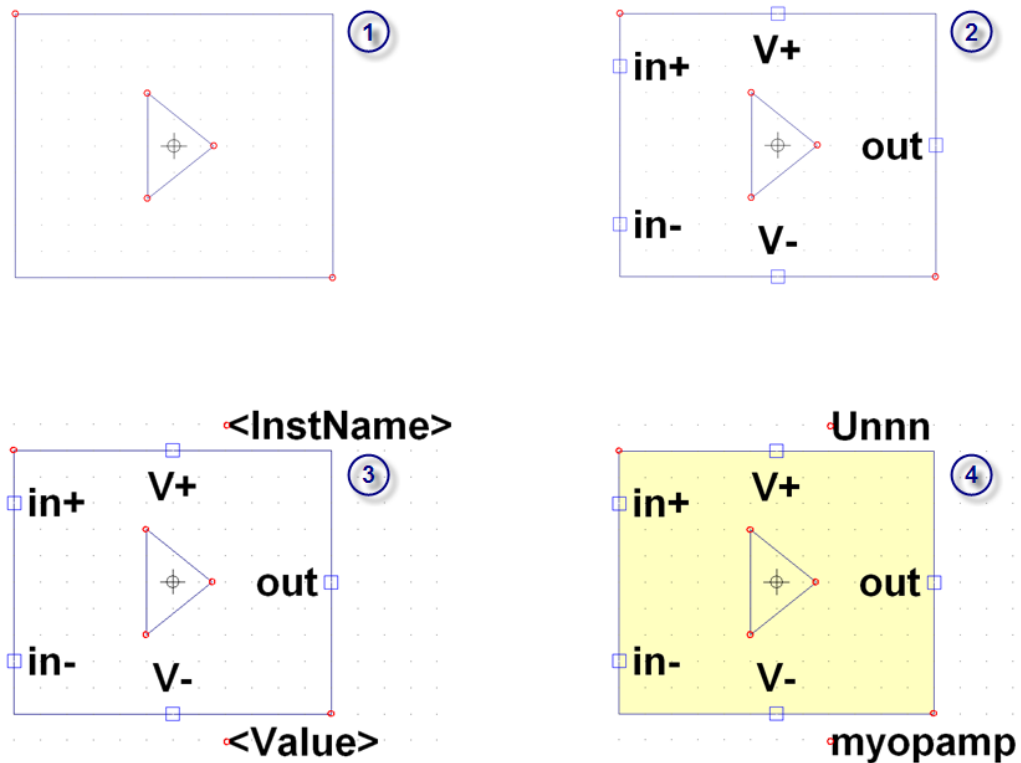

Figure 1.19: Steps to creating a custom symbol.
To create a new component, one needs a circuit symbol and a SPICE model (`netlist`) of a device or a circuit block. In this example, we will go through these steps. First, you have to draw the component's symbol that will be used in LTSPICE schematic capture or, alternatively, you can reuse an already existing one. To begin from scratch, select `File`→`New Symbol` from the pull-down Menu. Once the program is in the symbol editing mode, an additional `Draw Menu` provides options to draw a line, rectangle, circle, arc, and to add text to your symbol. Draw a simple symbol for an op-amp as shown in Figure 1.19.
Step 1. Create a symbol, as shown in Figure 1.19, consisting of a rectangle and a triangle.